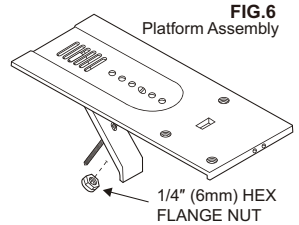

FIG.6
- 4 Attach support brace to platform** as shown (FIG.6). Use adjustment bolt and hex flange nut to complete assembly. Choose slot and adjustment bolt hole locations that will create a 45 degree angle between platform and support brace. Try assembly in the window to determine if platform will rest properly, and allow proper slope ($3/16$ " lower on out side).